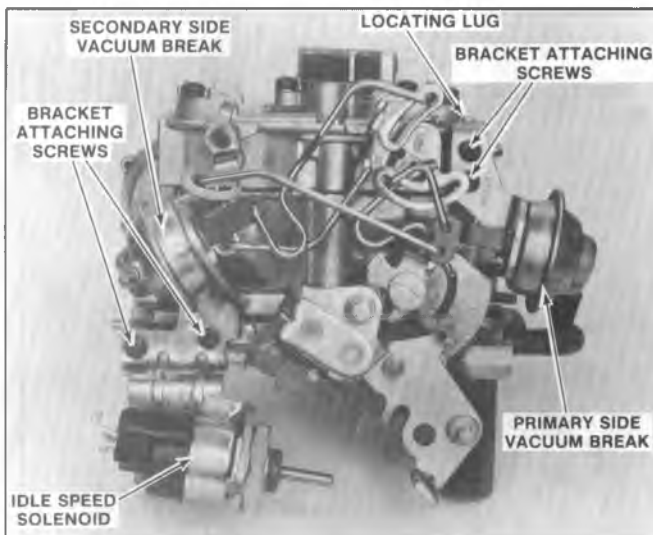

Fig. 6C2-20--Vacuum Break and Idle Speed Solenoid
9. Remove the (7) air horn to bowl attaching screws and lockwashers (Fig. 6C2-23). Remove vent and screen assembly.